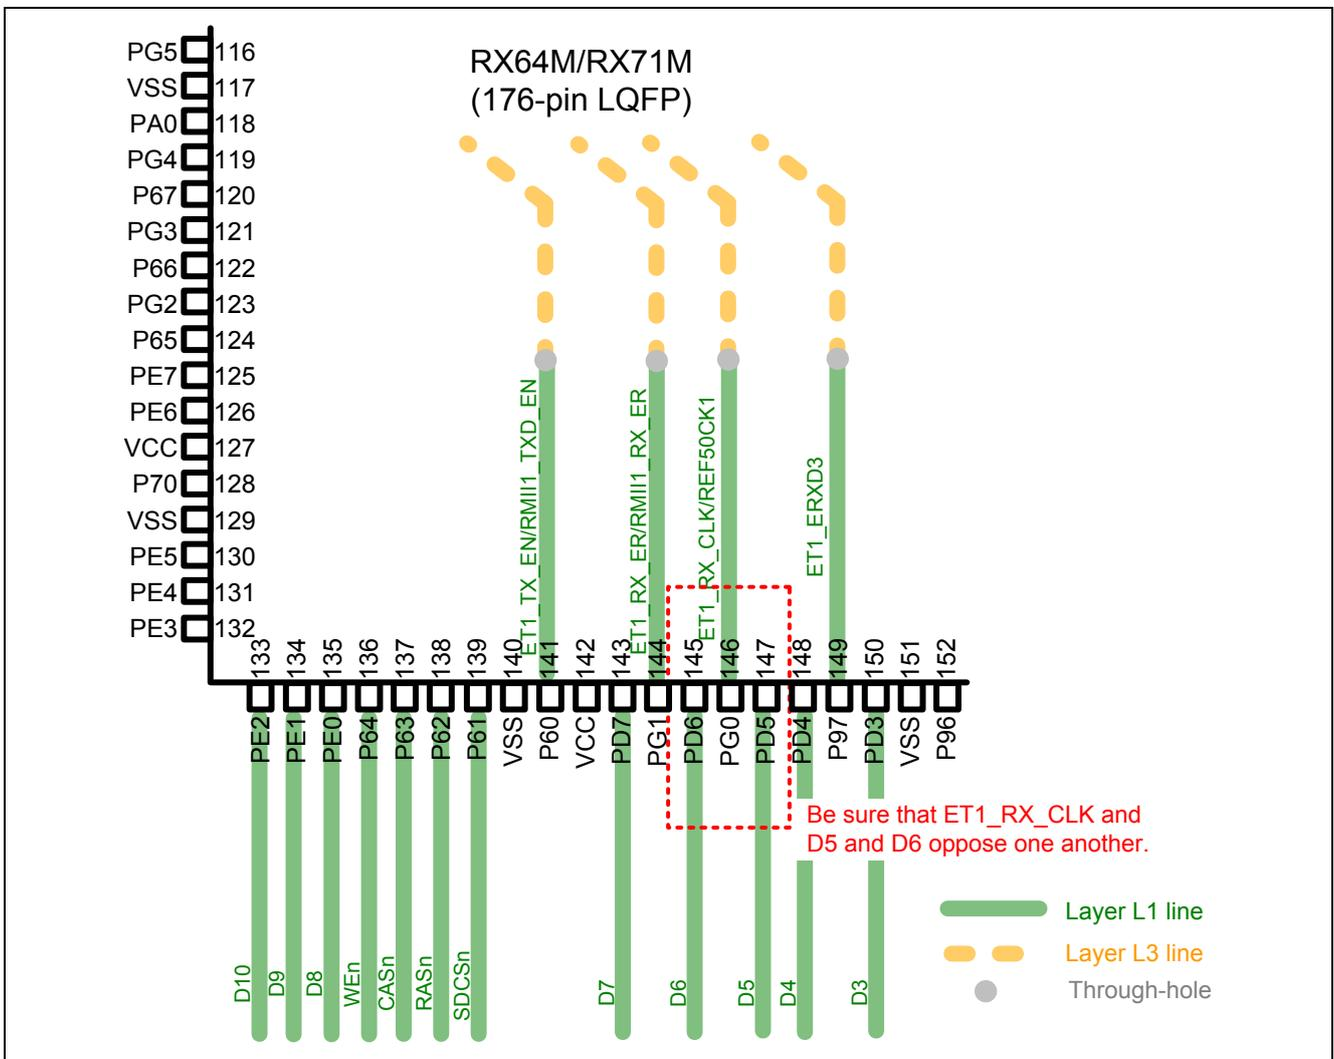

Figure 5 Wiring Example
11. When wiring the MII channel 1 signal from the RX64M/RX71M, avoid having the lines run alongside those of the SDRAM signals. In particular, be sure to lay out the patterns from the RX64M/RX71M such that the ET1\_RX\_CLK and D5 and D6 signals run in the opposite directions. (See Figure 5.)